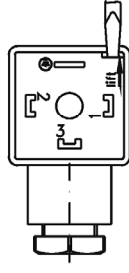

Fig. 2
- Use a screwdriver or similar tool to press out the core (pos. 8) of the junction box (Fig. 2).